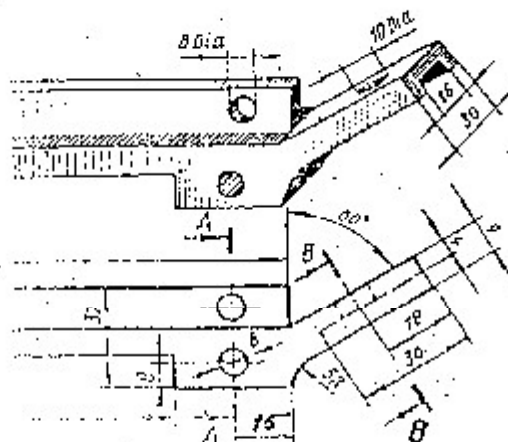

Figure 4
- Sketch revolved section at A-A and removed section at B-B for the link as shown in figure 4. [5]